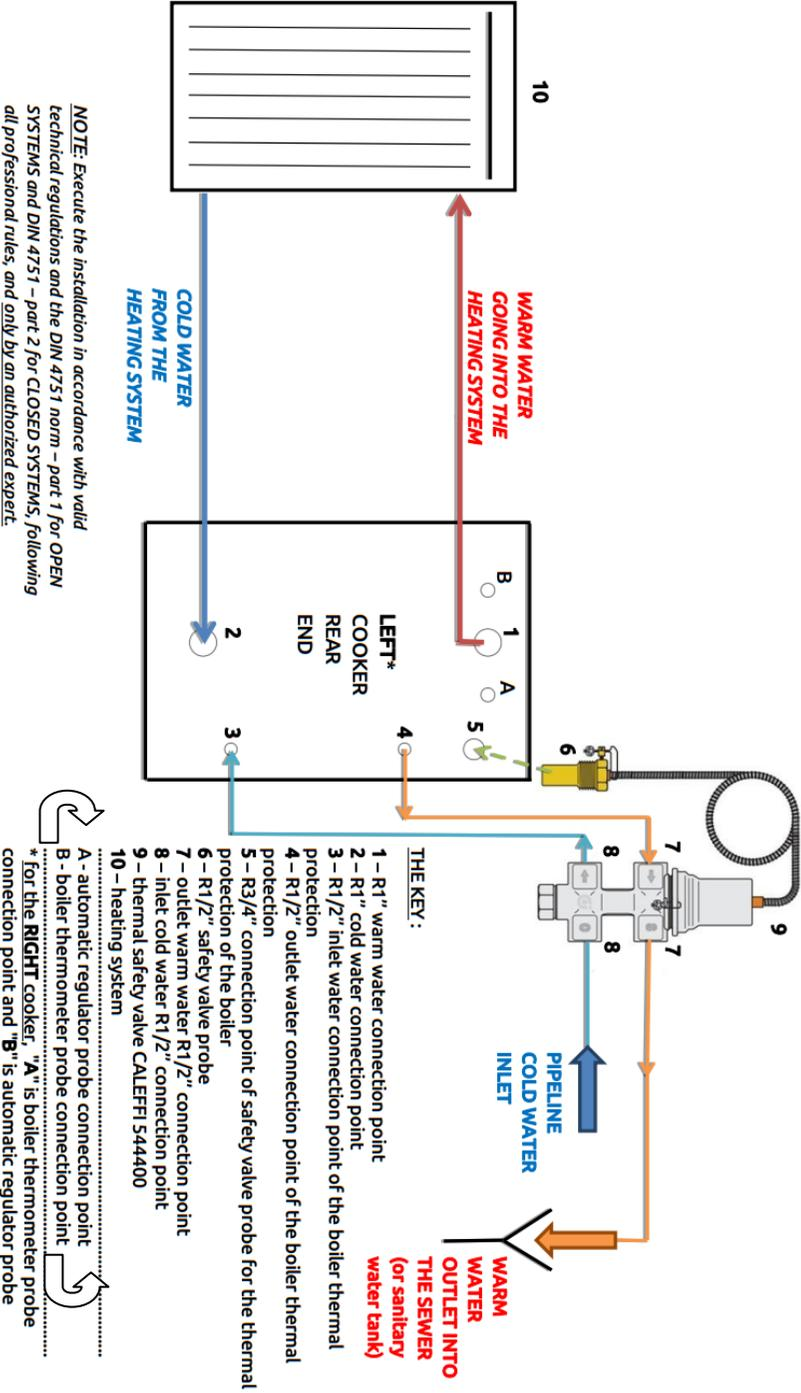

Figure 12
- **R1/2" (7) - Figure 12, OR**